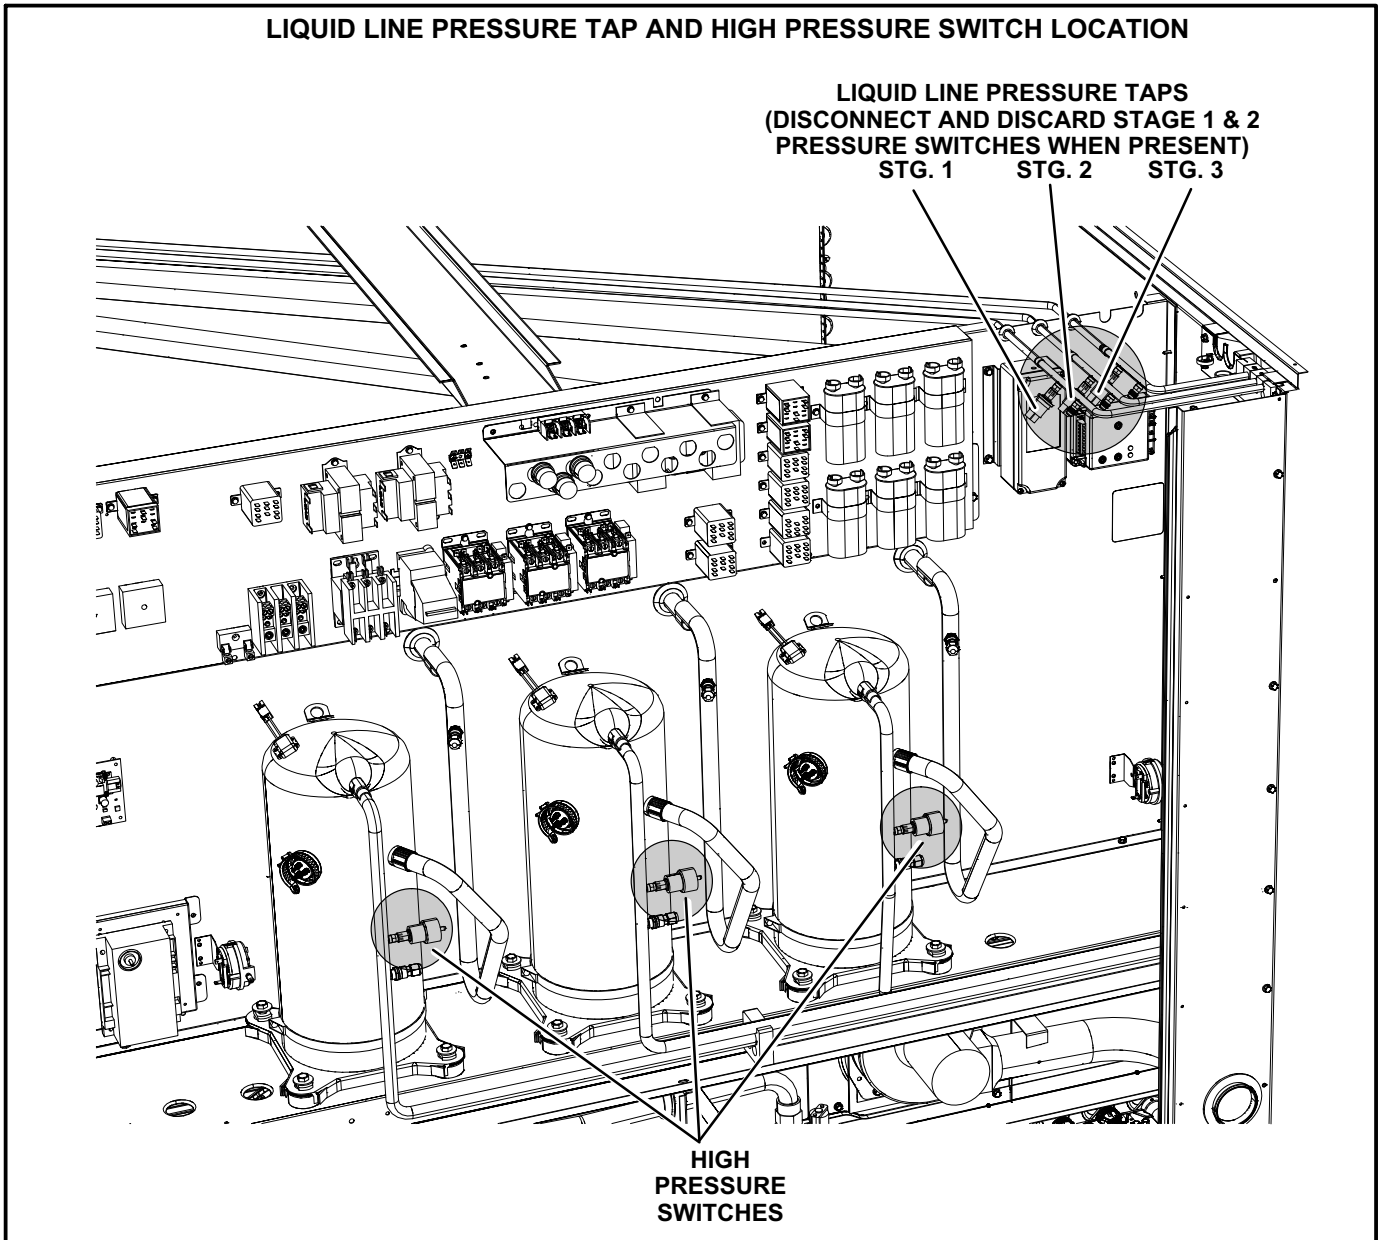

FIGURE 2
- 5- If present, disconnect and discard low pressure switches from stage 1 and 2 liquid line. See figure 2.